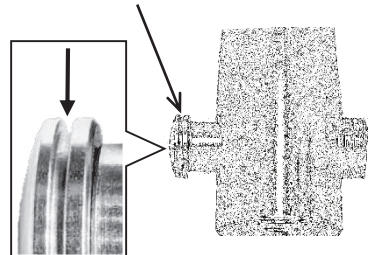

Fig.4
3. Slide the Switch Valve to "ON" (Fig.4) To dispense Purified Water.